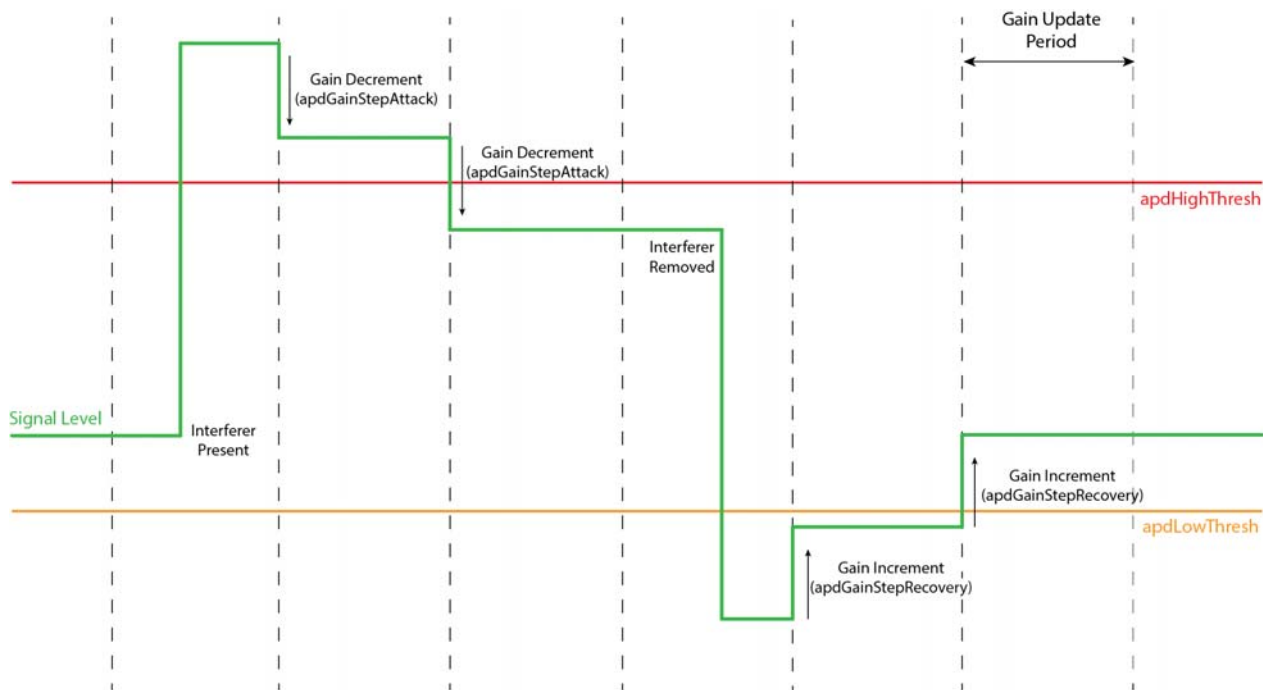
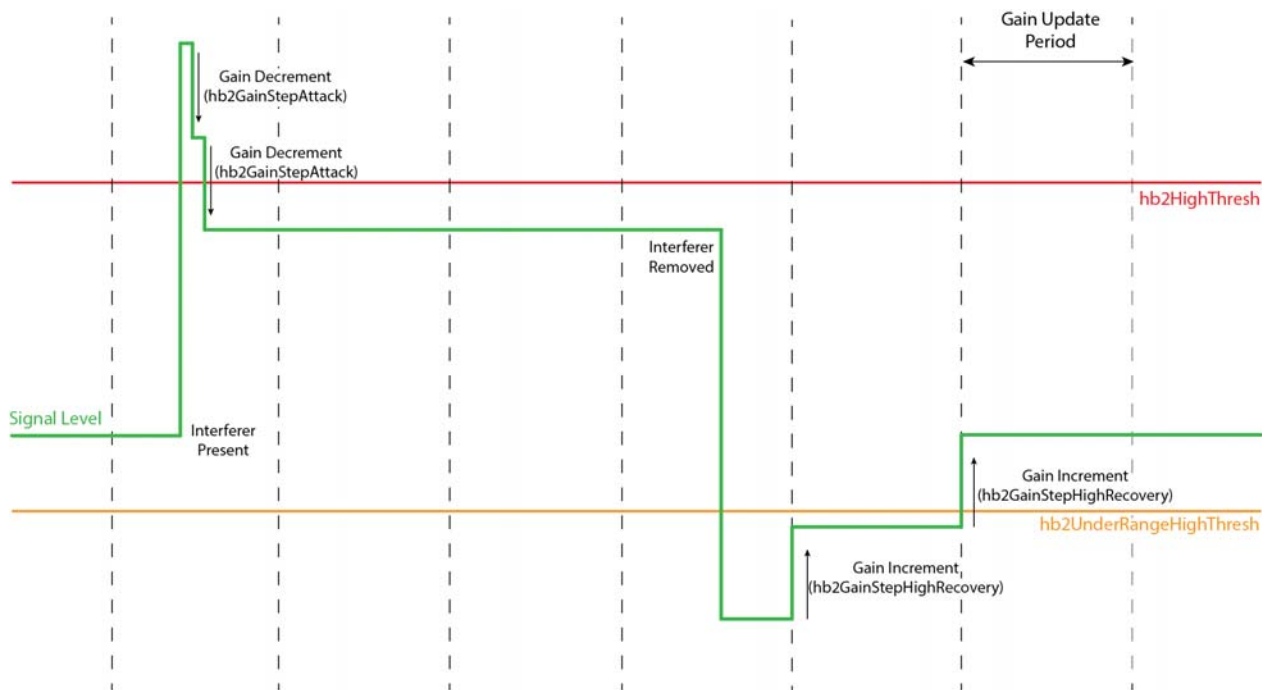
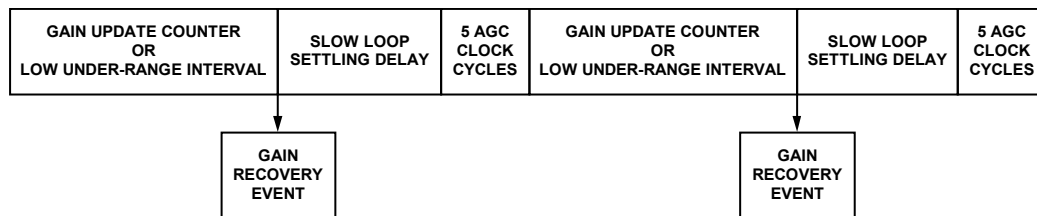
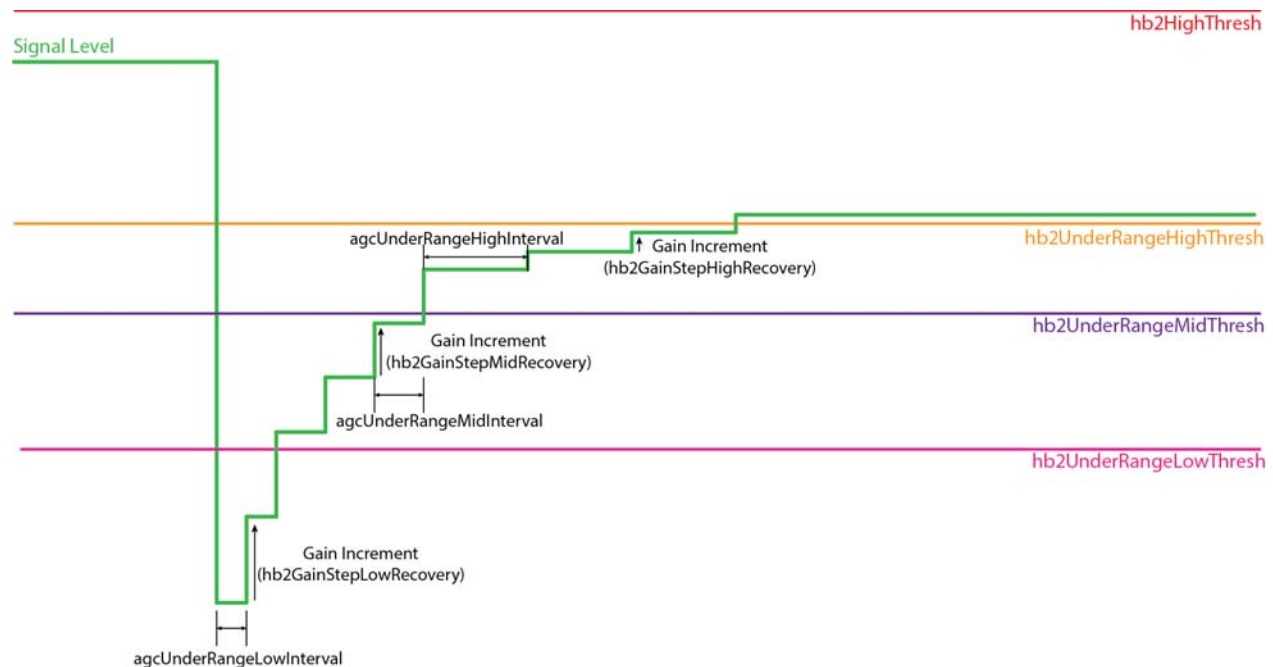

Figure 75. APD Thresholds and Gain Changes Associated with Underrange and Overrange Conditions
Figure 78. HB2 Gain Changes with Fast Attack Enabled
Figure 79. AGC Sequence with HB2 Detector in Fast Recovery Mode
Figure 80. AGC operation with HB2 Detector in Fast Recovery Mode
Figure 75 shows an example of the AGC response to a signal vs. the APD threshold levels. For ease of explanation, the APD is considered in isolation. The green line is representative of the peaks of the signal. Initially the peaks of the signal are within the `apdHighThresh` and `apdLowThresh`. No gain changes are made. An interferer suddenly appears whose peaks now exceed `apdHighThresh`. On the next expiry of the gain update counter (assuming a sufficient number of peaks occurred to exceed the counter), the AGC decrements the gain index (reduces the gain) by `apdGainStepAttack`. This is not sufficient to obtain the signal peaks within the threshold levels, and thus the gain is decremented once more, with the peaks now between the two thresholds. The gain is stable in this current gain level until the interfering signal is removed, and the peaks of the signal are below the `apdLowThresh`, resulting in an under range condition. The AGC increases gain by the `apdGainStepRecovery` at the next expiry of the gain update counter, continuing to do so until the peaks of the signal are within the two thresholds once more.
Figure 78 shows the same scenario but from the viewpoint of `agcChangeGainIfThreshHigh` being set for HB2.
It is also possible to enable a fast recovery mode whereby a gain recovery event occurs at the expiry of the gain update period as shown in Figure 79. This functionality is enabled with the `ableFastRecoveryLoop` parameter. This fast recovery mode enables the HB2 overload detector. The operation is illustrated in Figure 80. When the signal level falls below `hb2UnderRangeLowThresh`, the gain is incremented by `hb2GainStepLowRecovery` following the expiry of the gain update period. Note that in the fast recovery mode the `agcUnderRangeLowInterval` is used instead of the gain update counter to set the gain update period. After sufficient gain increases are implemented to bring the signal level above `hb2UnderRangeLowThresh`, the gain is incremented by `hb2GainStepMidRecovery` after the expiry of a number of gain update periods as set by `hb2GainStepMidRecovery`. Finally, when the signal level is increased above `hb2UnderRangeMidThresh`, the gain is incremented by `hb2GainStepHighRecovery` following the expiry of a number of gain update periods as set by `agcUnderRangeHighInterval`. The multiple threshold and interval parameters allow for a gain recovery whereby as the wanted signal level is approached, the magnitude of the gain adjustments is reduced and the time interval between gain changes is increased. However recovery events remain periodic as shown in Figure 79 because all gain updates occur at the expiry of the gain update period.
In this mode, the power detector measurement is also used to control the gain of the Rx chain. In the event of an over-range condition, then both the peak detectors and the power detector can instantiate a gain decrement. In the event of an under-range, only the power detector can increment the gain. The power detector changes gain solely at the expiry of the gain update counter. The peak detectors can be set in one of two modes (depending on the setting of `agcGainChangeIfThreshHigh`) whereby the AGC waits for the gain update counter to expire before initiating a gain change, or immediately updates the gain as soon as the overrange condition occurs (see Figure 75 to Figure 80).
- AGC Gain Recovery at the end of the gain update counter. Note that when fast recovery is enabled, the gain update counter is substituted with the low under range interval, per Figure 79.
For more details of how these thresholds are used by the AGC, refer to the relevant sections of the AGC overview in this document (specifically Figure 76, Figure 78 and Figure 80).